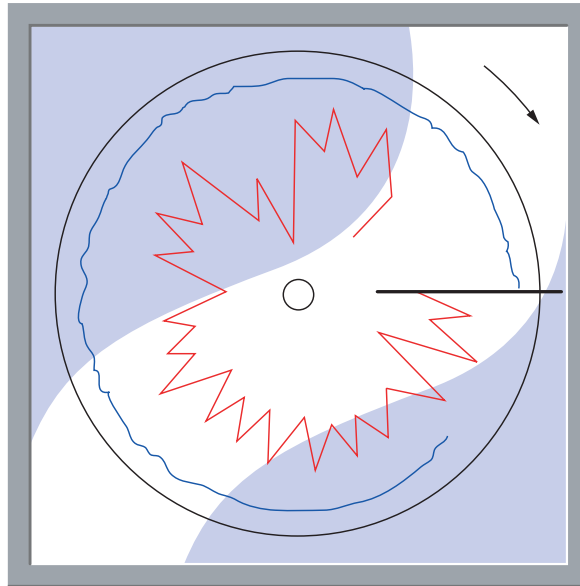

Fig. 3.17.2 Saw tooth trace on a chart recorder
- A 'saw-tooth' type steam flowrate as depicted by the chart recorder shown in Figure 3.17.2.